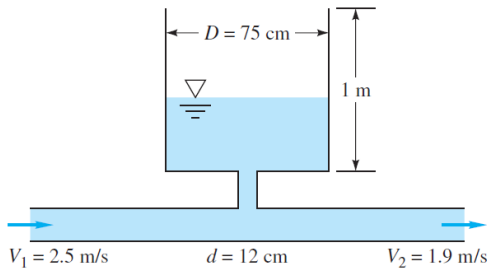

Fig. 3.9
- 3.9 The pipe flow in Fig. 3.9 fills a cylindrical surge tank as shown. At time $t = 0$, the water depth in the tank is 30 cm . Estimate the time required to fill the remainder of the tank.